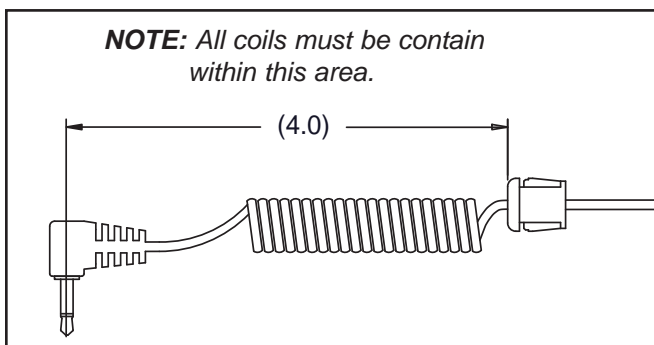

Figure 5
- F. Position the strain relief plug on heart rate cable 4" from connector as shown in Figure 5.